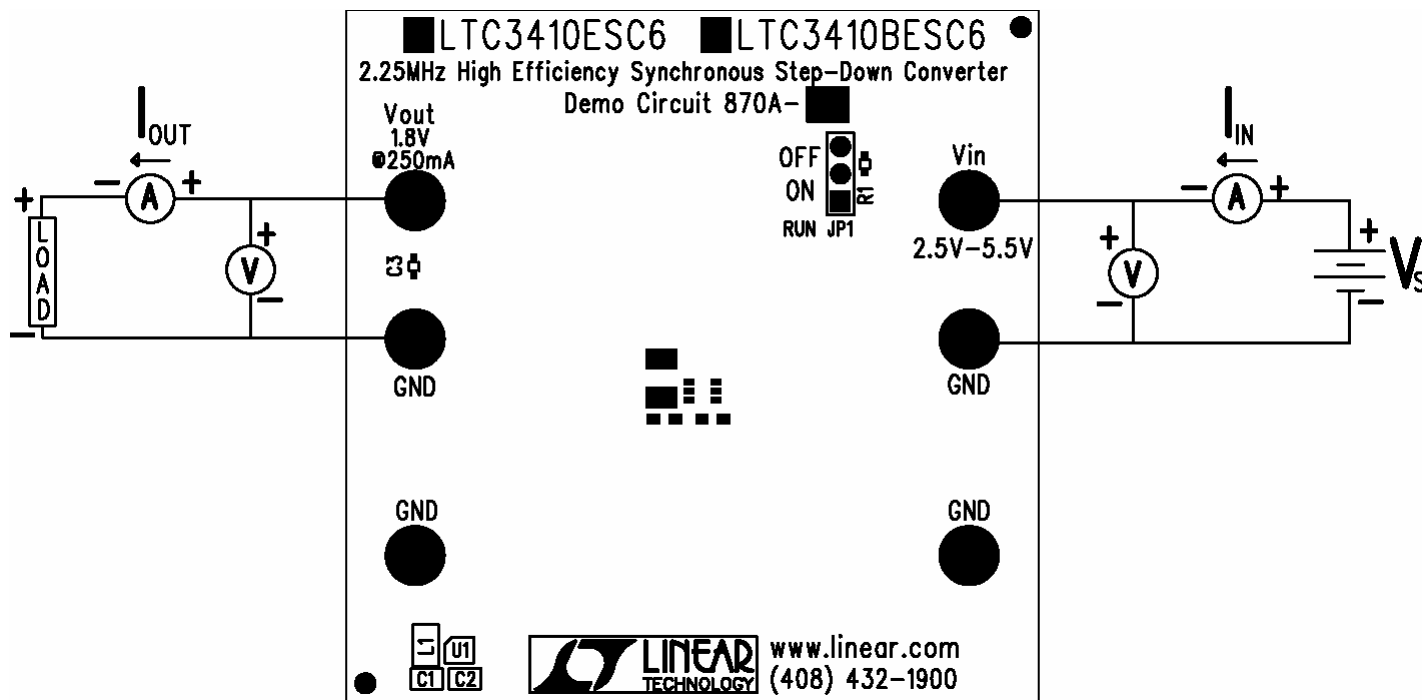

Figure 1. Proper Measurement Equipment Setup
The DC870A-A is easy to set up to evaluate the performance of the LTC3410. For proper measurement equipment configuration, set up the circuit according to the diagram in **Figure 1**. Before proceeding to test, insert shunt on jumper JP1 into the off position, connecting the RUN pin to ground (GND), which shuts down the circuit.
1. Connect the input power supply and the load to the board. Do not hot-plug  $V_{in}$  or increase  $V_{in}$  over the rated maximum supply voltage of 5.5V, or the part may be damaged. Refer to figure 1 for proper measurement equipment setup.